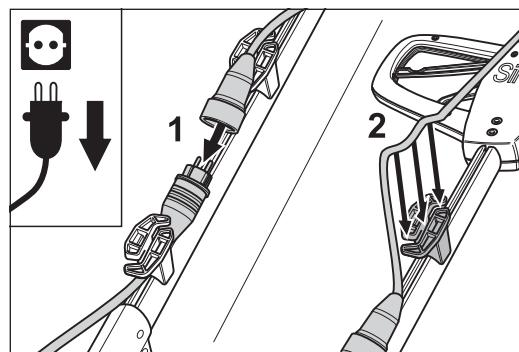

Fig. 8 Insert the extension cable in the upper cable holder on the guide tube.
- 1** Push the socket onto the plug on the motor cable and insert the extension cable in the upper cable holder on the guide tube (Fig. 8).